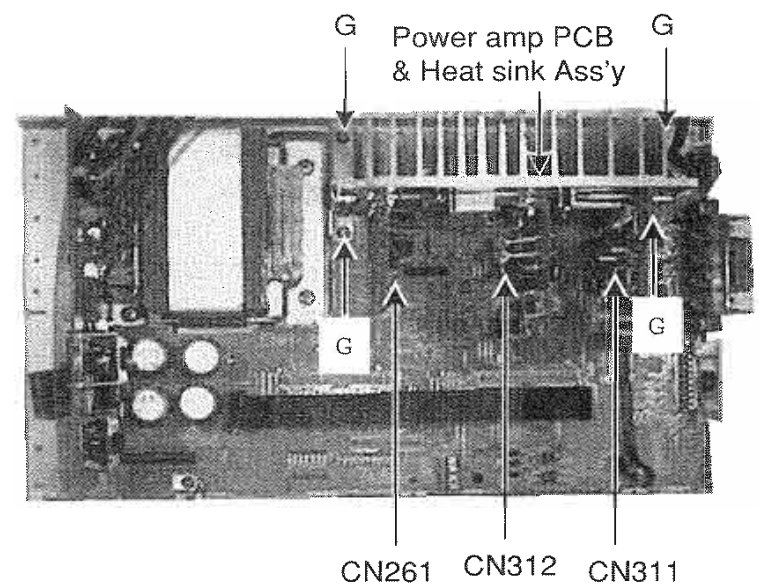

Fig.5
- 1.Remove 4 screws(G)fasteing the Bracket of Heat sink (Fig.5).